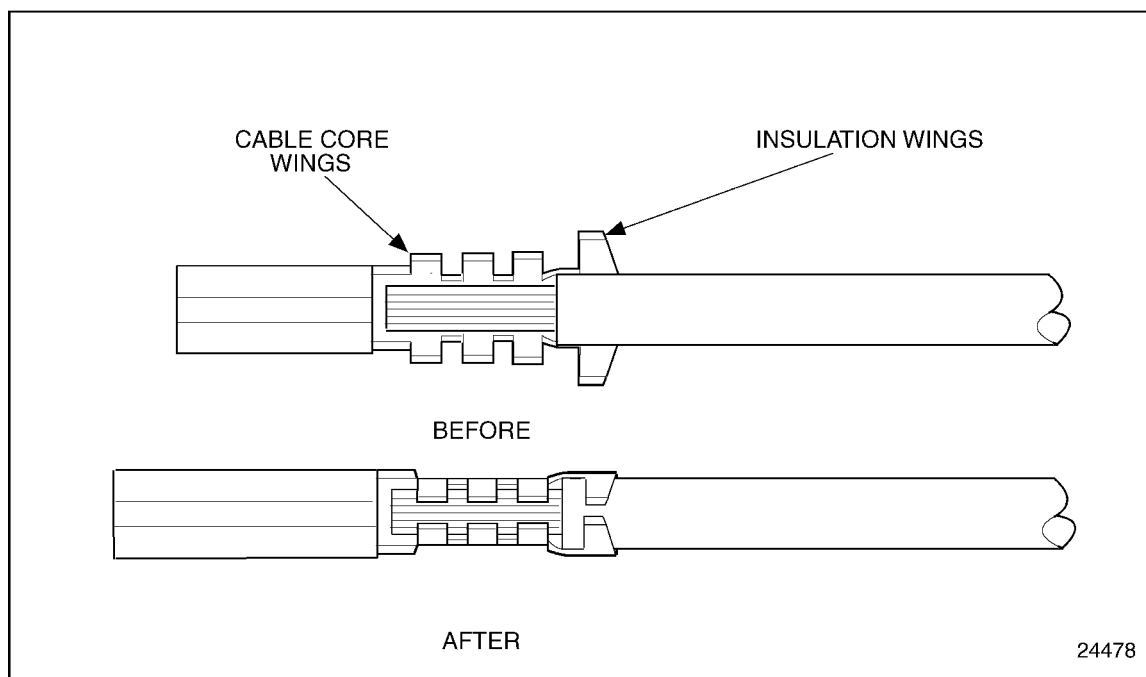

Figure 8-17 **Typical Terminal Installation**
4. Insert the cable into the terminal so the stripped portion is positioned in the cable core wings and the insulated portion of the cable is in the insulation wings. See Figure 8-17.